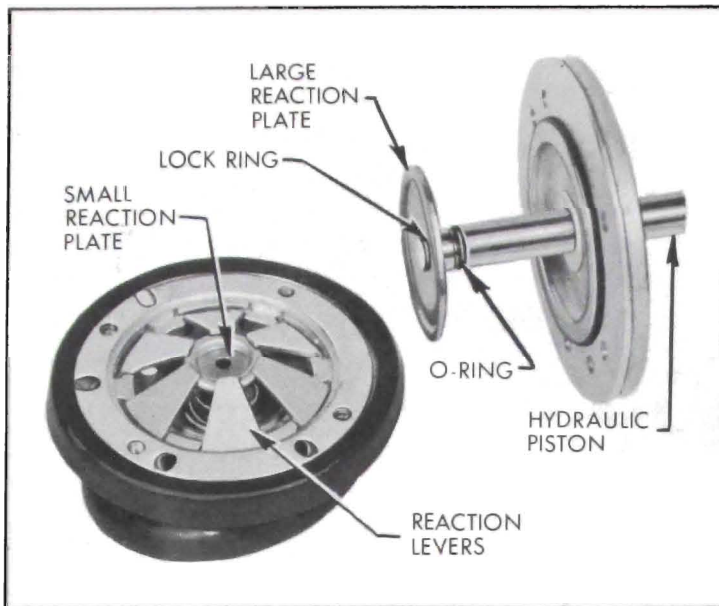

Figure 9-18—Reaction Mechanism
9. Remove four cap screws holding piston guide to power piston while holding assembly together against inner spring load. With piston flat, carefully lift piston guide and hydraulic piston straight up to avoid disturbing loose parts under piston guide. Remove annular ring. See figure 9-18.
12. From power piston assembly, remove reaction levers, small reaction plate, and control valve return spring. See figure 9-18.